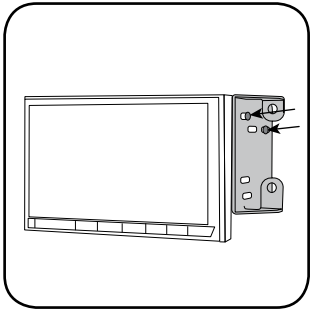

Fig. 2.3
3. Place the metal brackets onto the radio and secure using the hardware included with the radio. (Fig. 2.3)